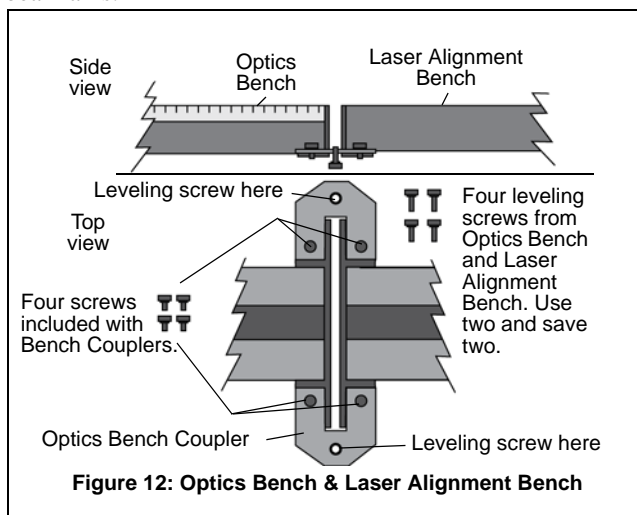

Figure 12: Optics Bench & Laser Alignment Bench
2. Use the Optics Bench Couplers and the provided screws to connect the Optics Bench end-to-end with the Laser Alignment Bench as shown in Figure 12. Do not tighten the screws holding the Bench Couplers yet.
**Note:** The leveling screws must be removed from the end of the Optics Bench and from the end of the Laser Alignment Bench to attach the Bench Couplers. Two of the removed leveling screws are then inserted into the threaded holes in the Bench Couplers and are used for leveling (see Figure 12). Save the other two screws/